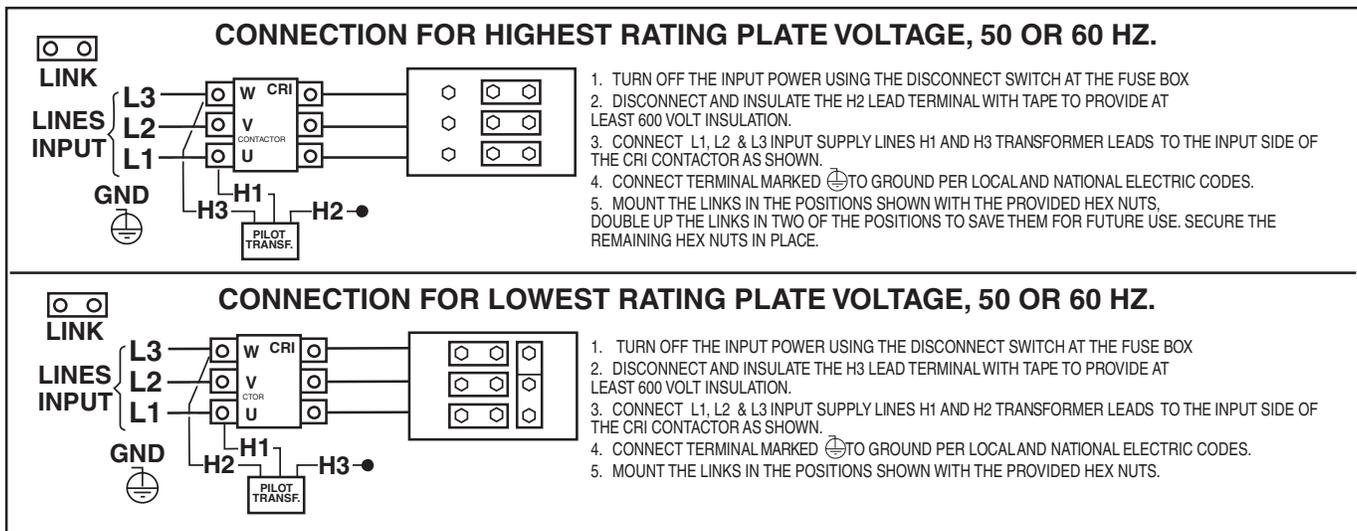

FIGURE A.4-Reconnect Panel Board Positions for Dual Voltage Machines
1. For Dual Voltage except 380/500-460/575, see Figure A.4. (M15009)